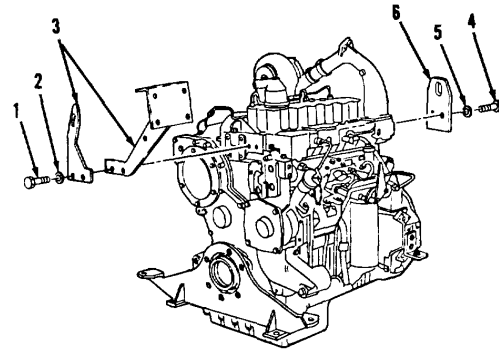
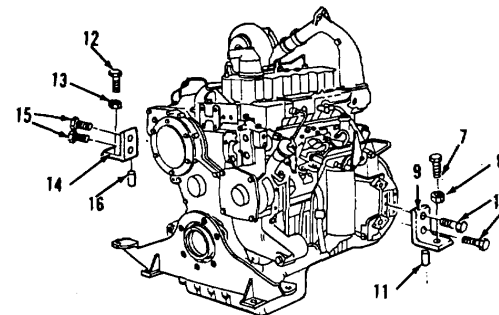
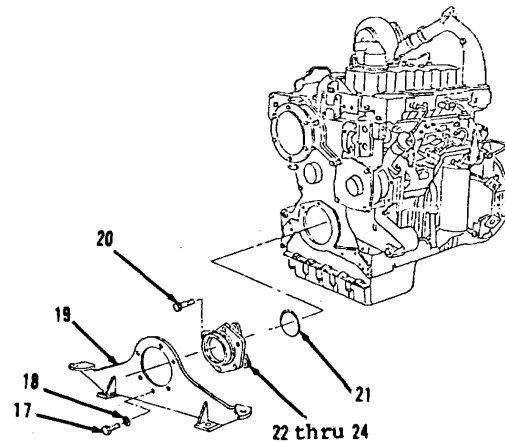

Figure 3-11.
Figure 3-12.
Figure 3-13.
1. Remove two bolts (1), washers (2) and plates (3, Figure 3-11) from top, front of engine.
2. Remove two bolts (4), washers (5) and plate (6) from top, rear of engine.
3. Remove bolt (7) and nut (8) from support (9, Figure 3-12).
4. Remove two bolts (10) and support (9) from bottom, rear of engine.
5. Remove dowel (11) from support (9).
6. Remove bolt (12) and nut (13) from support (14).
7. Remove two bolts (15) and support (14) from bottom, rear of engine.
8. Remove dowel (16) from support (14).
9. Remove six bolts (17), washers (18) and support (19, Figure 3-13) from bottom, front of engine.